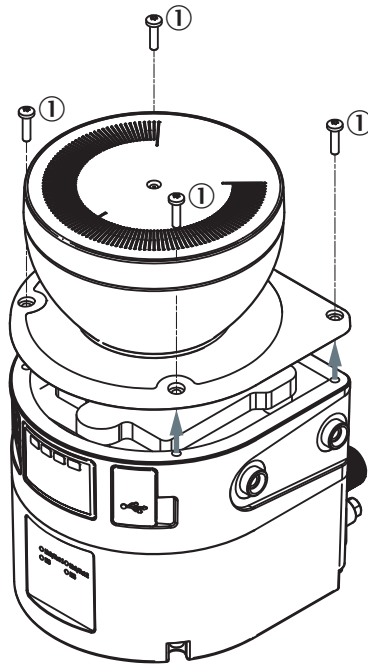

Figure 81: Fixing screws for the optics cover
13. Screw in new fixing screws, see figure 81, page 130.